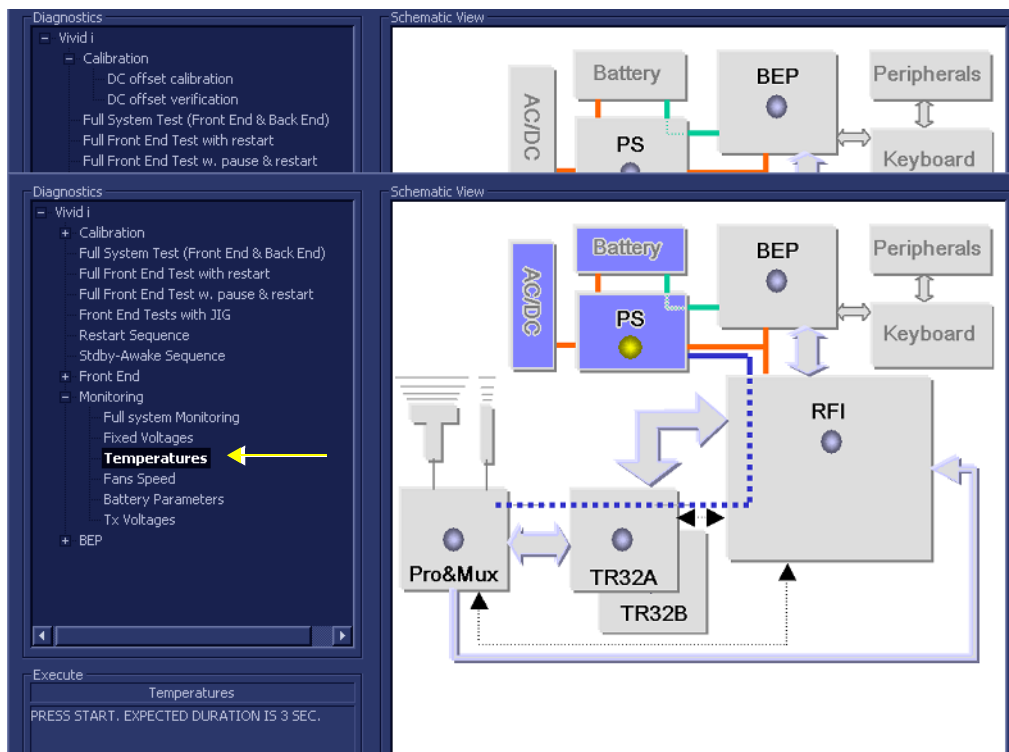

Figure 7-66 Temperatures Test
- 1.) In the *Diagnostic Test* window, trackball to **Temperatures** in the list of *Monitoring* tests available for selection from the Diagnostic Test Tree (see Figure 7-66 below) and press **Set**. The Temperatures Test name is displayed under *Execute*; all system components (excluding the P&M) will be tested are highlighted light blue in the Schematic View (all), as shown below: